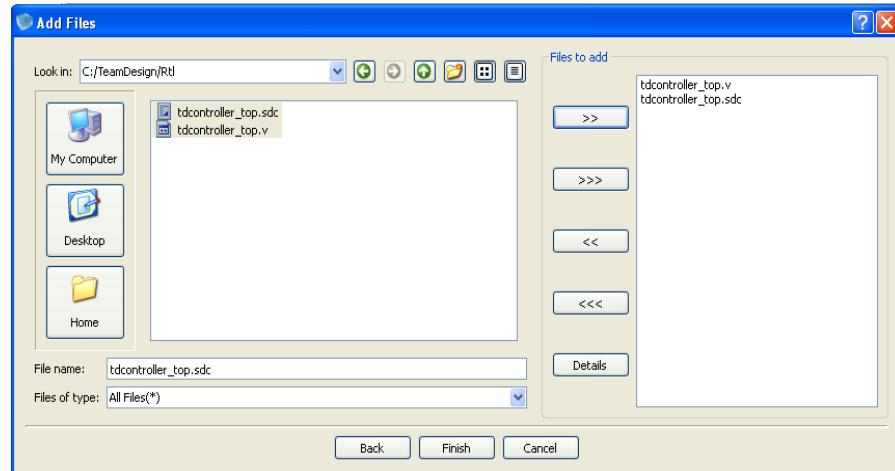

Figure 9-4 : Add RTL Files to top Project
- Add the top level design file into the project as shown in Figure 9-4. Click on Finish to get back to the iCEcube2 tool.